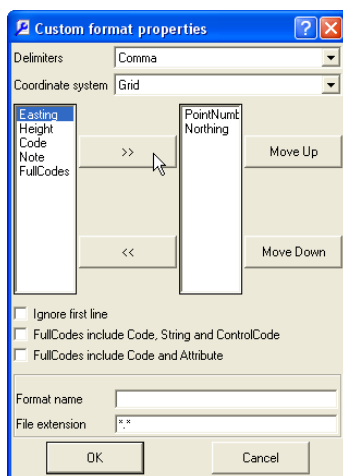

Figure 3-7. Add Elements to Custom File Type
7. Select the elements to include in the format from the left column and click the move right button (>>) to add it to the right column (Figure 3-7). Use the move left button (<<) to remove elements from the format.